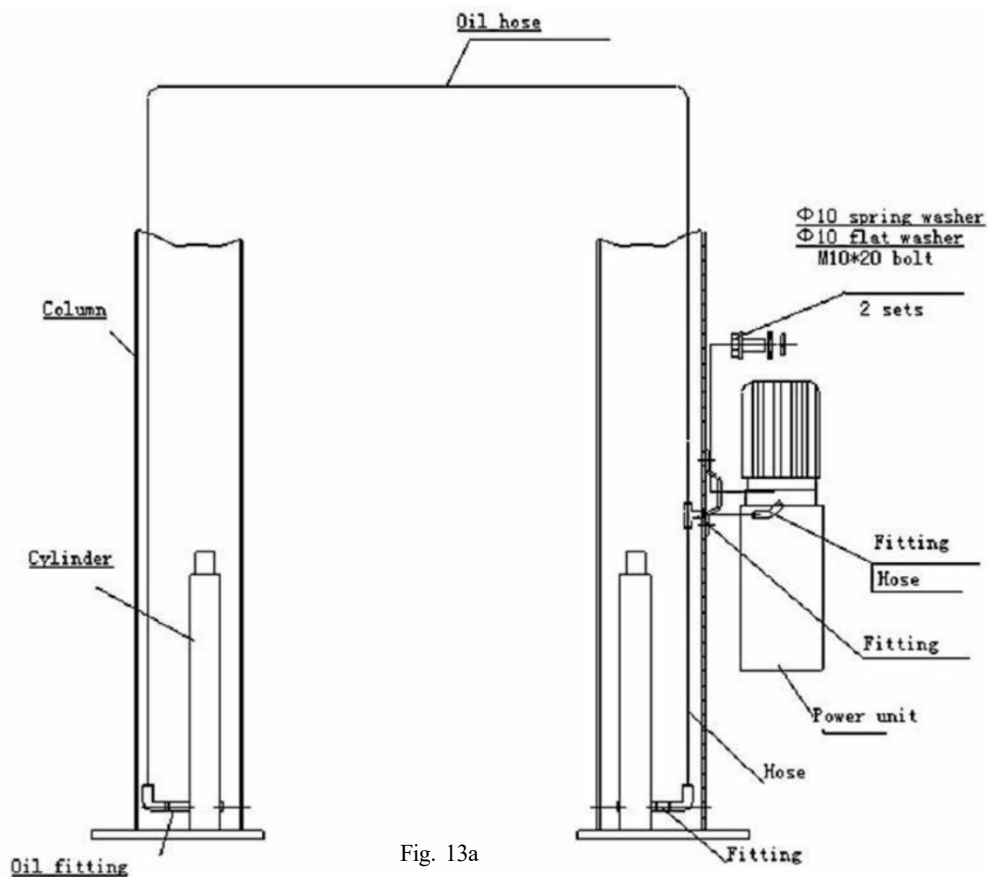
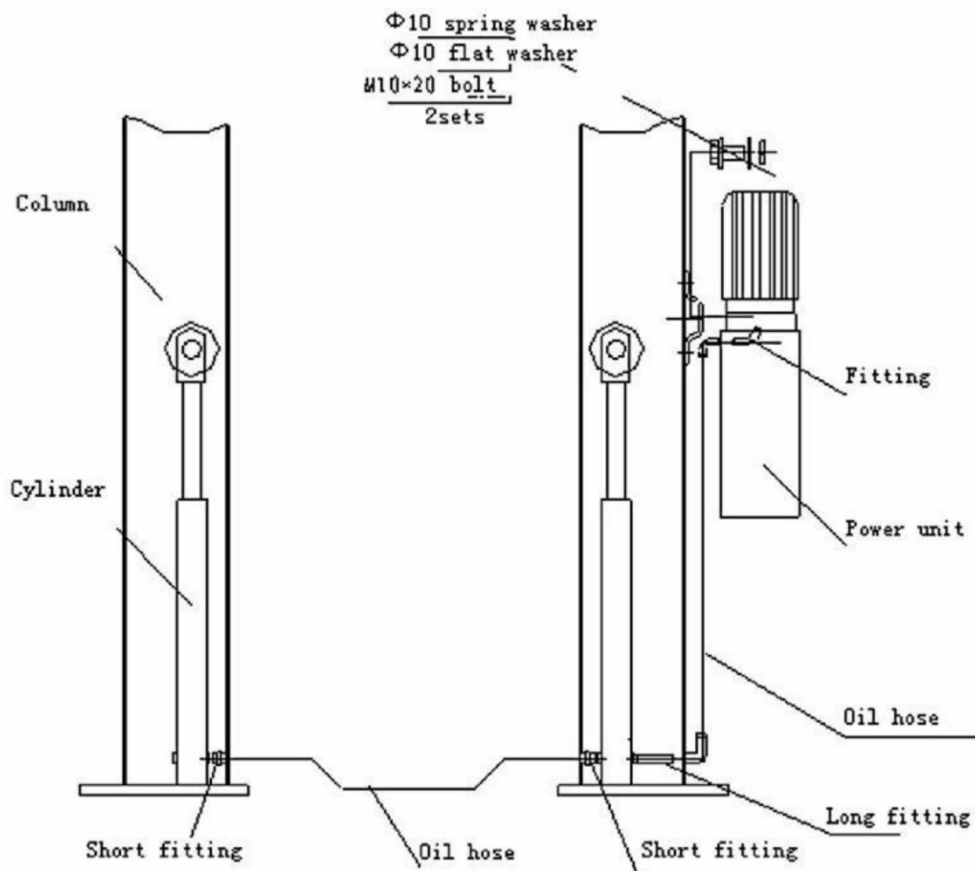

Fig. 13a
Fig. 13b
- Use two M10 Bolt s and washers to fix the power unit (as shown in Fig. 13a、13b). for KT-M110 models, install the hydraulic line as shown in Fig. 13a , for KT-H100 models, , install the hydraulic line as shown in Fig. 13b and tighten all the fittings top prevent oil leakage.